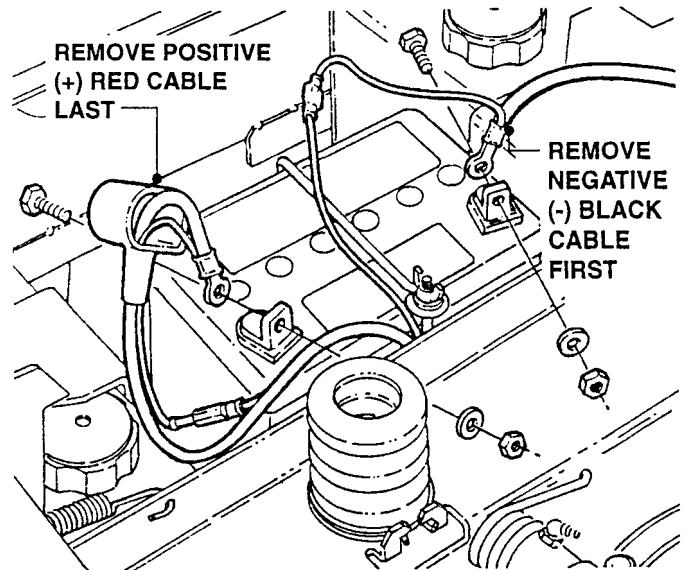

FIGURE 5.8
- A. Disconnect the Battery. Remove NEGATIVE (-) BLACK Cable first and POSITIVE (+) RED Cable last. Secure Cables away from the Battery. See Figure 5.8.
- 1. Place the Spacer between the Hydro Transaxle and mounting surface of Frame. Insert the two (2) 3/8 - 16 x 4 3/4" Bolts thru the holes in top of the Frame, Spacer and Transaxle. Secure Bolts with Flat Washers and Locknuts. Torque to 31 Ft. Lbs. (42.16 N•m).
- 2. Secure the Hydro Transaxle to the Bearing Mount Weldment with the eight (8) 1/4 - 20 x 5/8 Hex Flange Lock Screws. Torque to 8 Ft. Lbs. (10.88 N•m).
- F. Depress Idler Pulley and place Traction Belt(s) over Input Pulley. Move the Input Pulley on its Shaft until the Belt is aligned with Traction Pulley. Tighten the two (2) 5/16 - 18 x 5/16 Sq. Hd. Set Screws.
- M. Reconnect Battery (Refer to Figure 5.8).